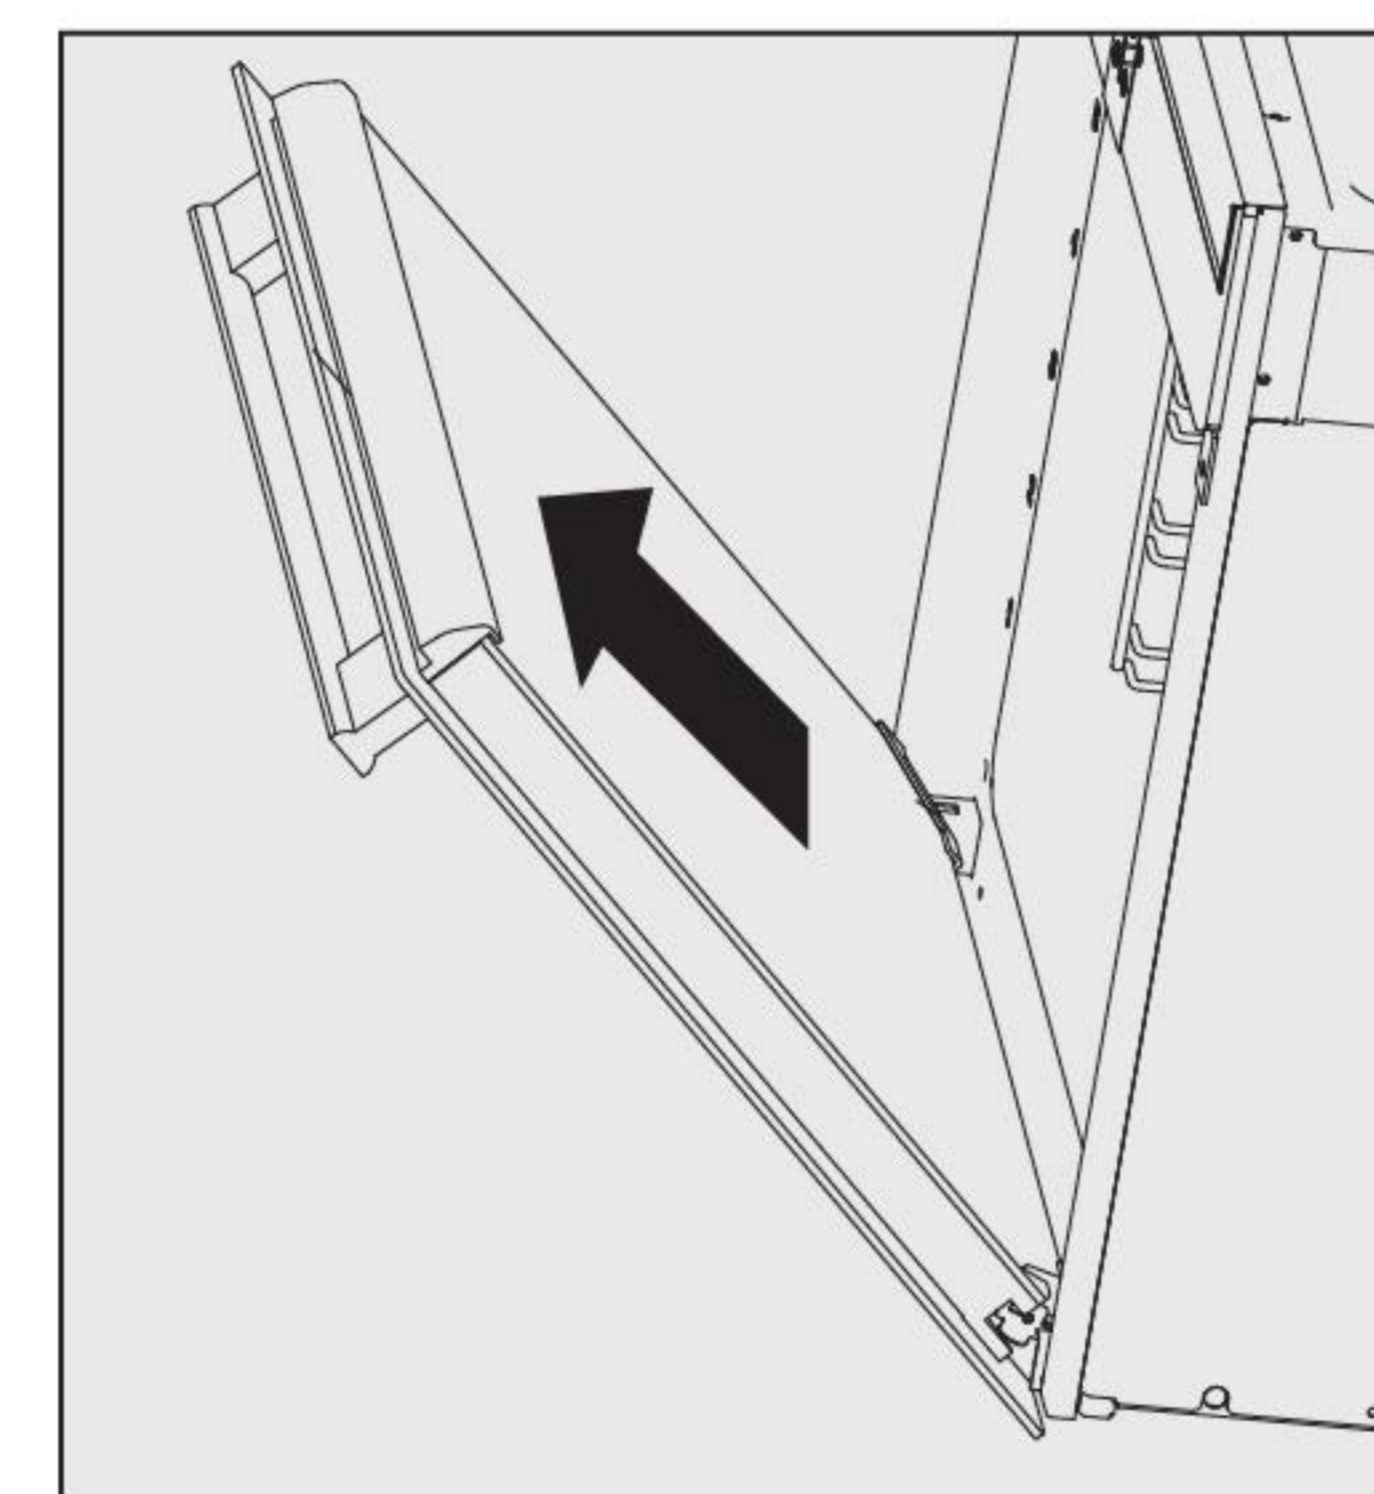

fig.3
- Lift the door upwards as far as it will go. Hold the door securely at both sides and lift upwards the hinges.(fig. 3)